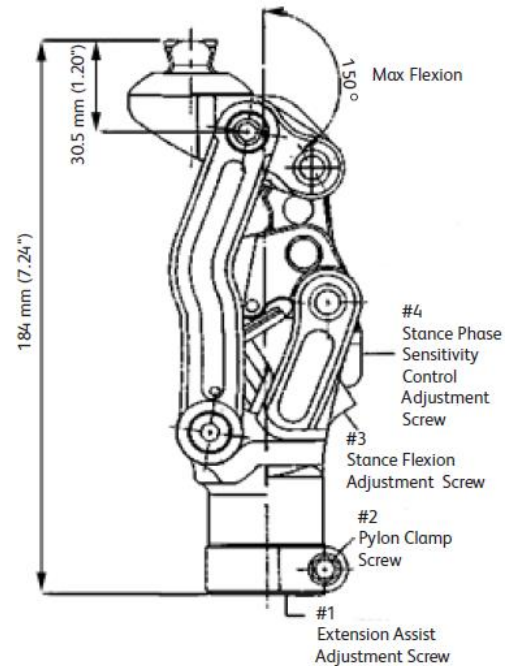

Figure 1
- Locate the Extension Assist Adjustment screw, #1 in *Figure 1*, on the anterior side of the knee.
- Locate the Stance Flexion Adjustment screw, #3 in *Figure 1*, on the posterior of the knee.
- Locate the Stance Phase Sensitivity Control Adjustment screw, #4 in *Figure 1*, on the posterior of the knee.